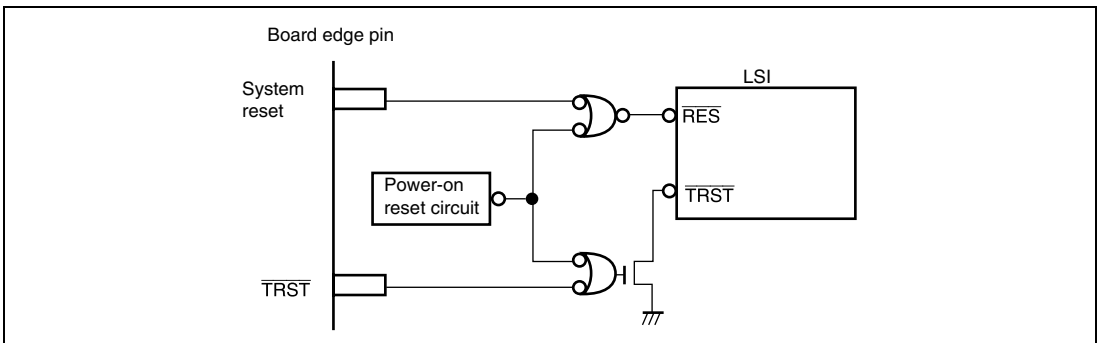

Figure 13.4 Recommended Reset Signal Design
- System circuitry must also be separated from the $\overline{\text{TRST}}$ in order not to affect $\overline{\text{TRST}}$ operation as shown in figure 13.4.